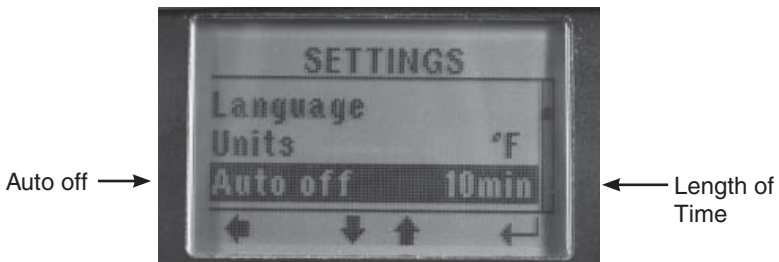

Figure 14. Auto Off
3. Use UP/DOWN buttons to scroll to “Auto off” (Figure 14)